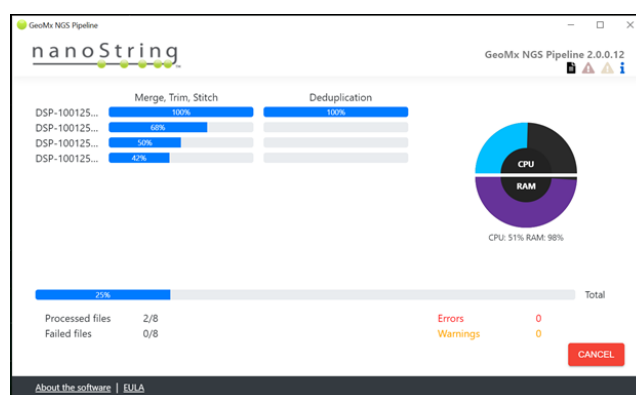

Figure 12: GeoMx NGS Pipeline run monitoring window
11. Monitor the progress (Figure 12).